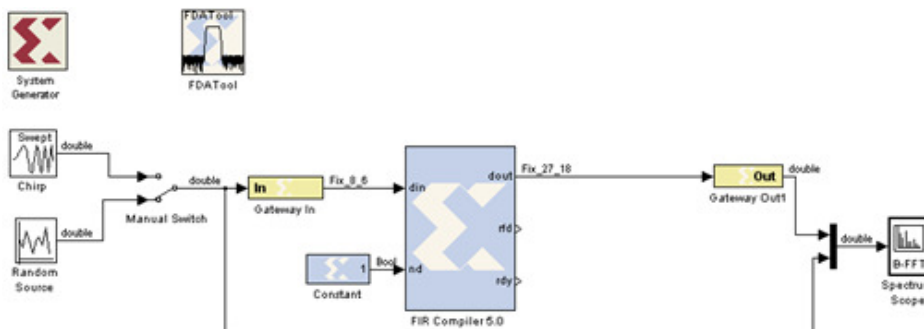

Figure 5. FIR Filter Block Based Design Ready for Simulation.
- 2-1-3. Add and parameterize the **constant** block to **Boolean** and connect the blocks to have the design resemble to **Figure 5**